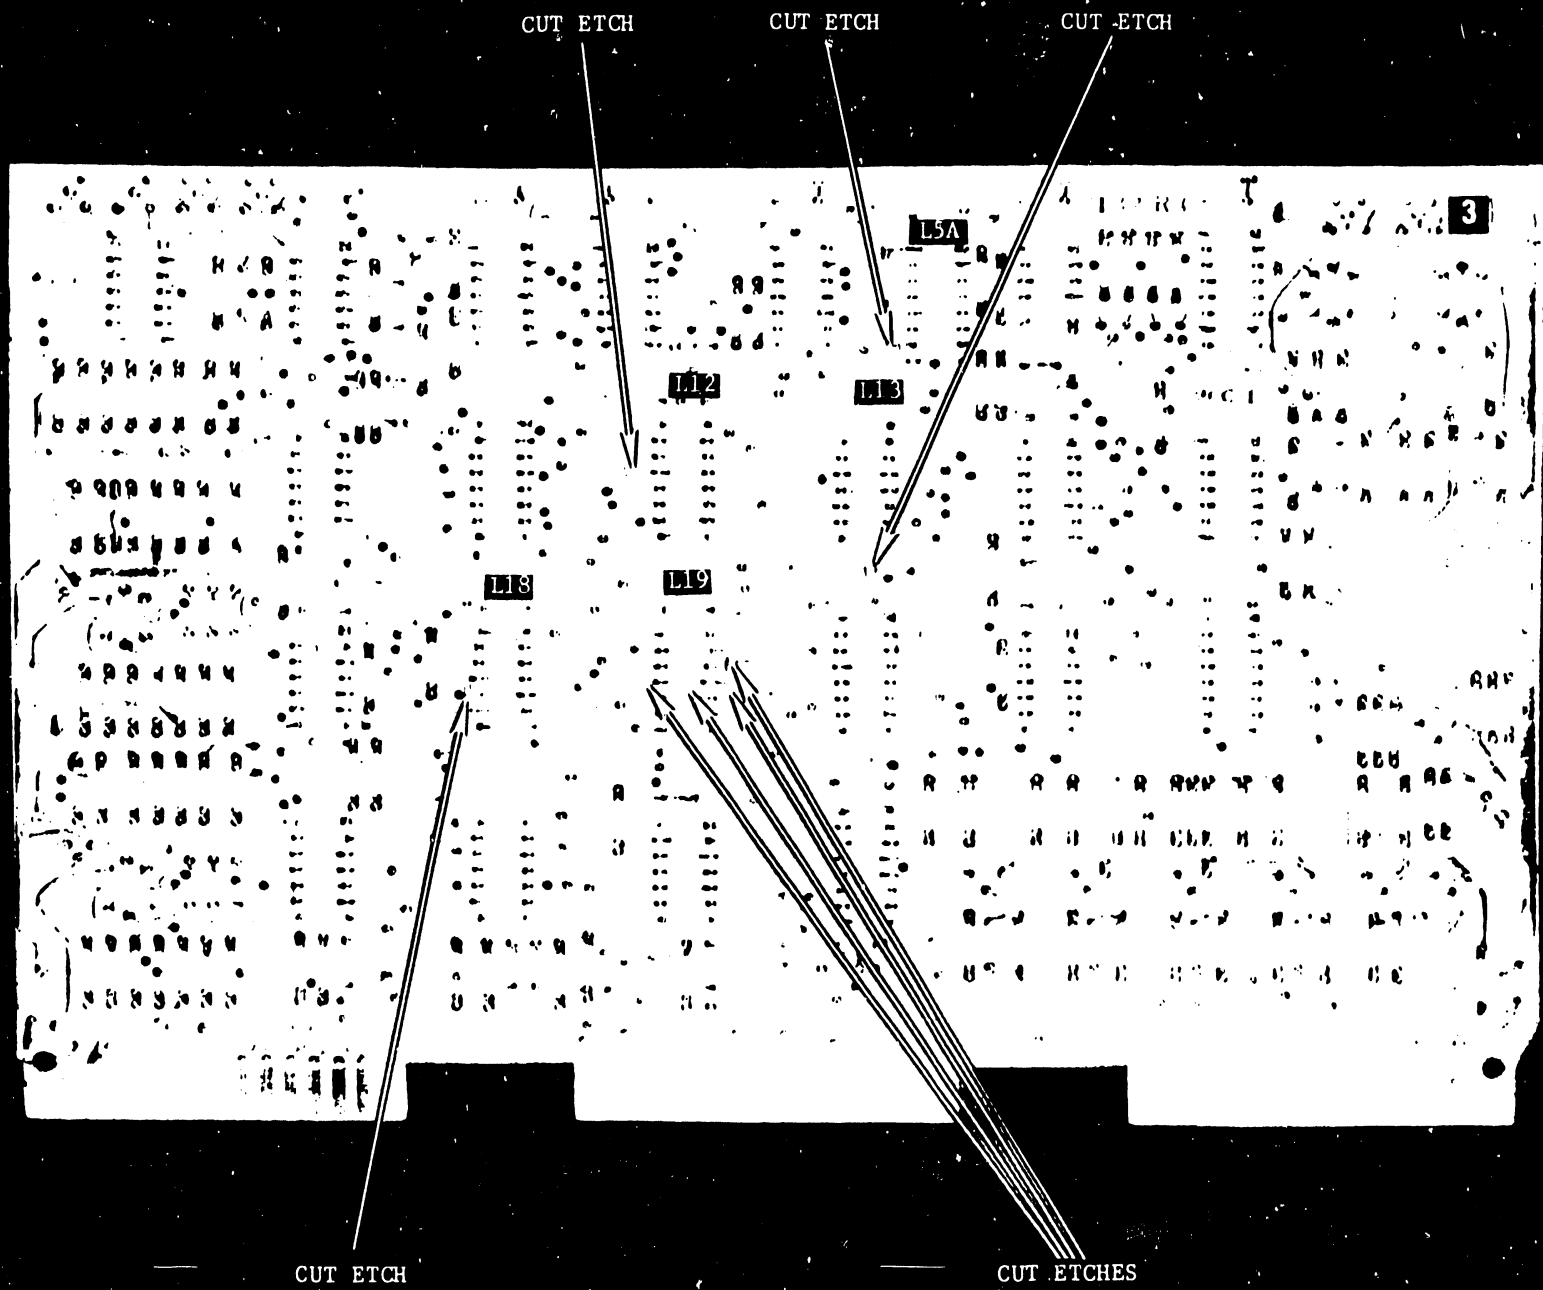

FIGURE 8-7 7132 PCB
- b. On the non-component side of the board, cut the following etches: (Ref: Figure 8-7)